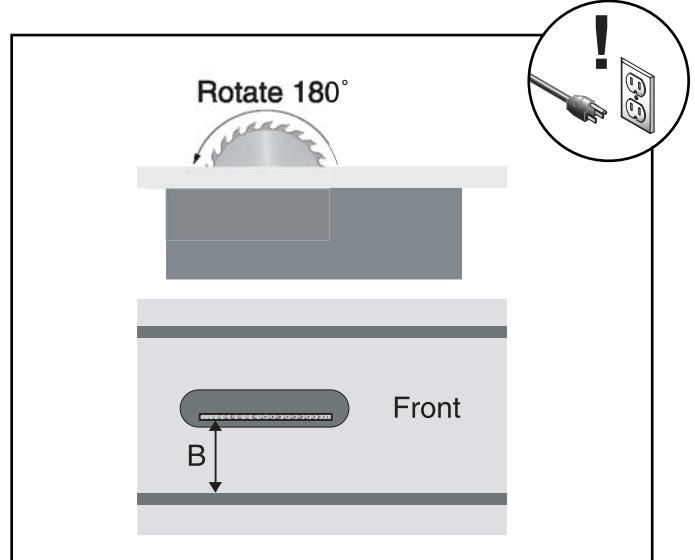

Figure 60. 90° blade parallelism measurement.
3. Rotate the blade 180° and measure the distance (B) between the miter slot and the back of the blade as shown in **Figure 60**.